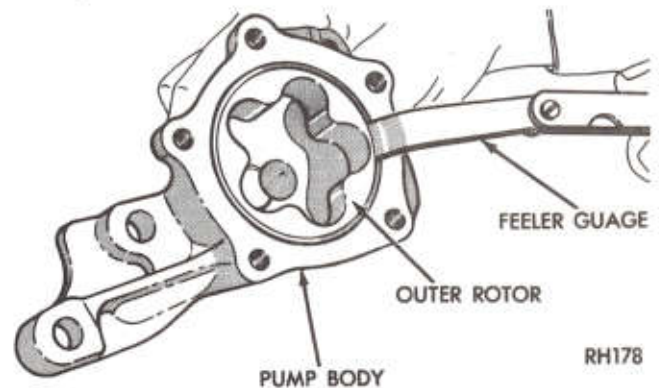

Fig. 60—Measuring Outer Rotor Clearance in Housing
(5) Slide outer rotor into pump body, press to one side with fingers and measure clearance between rotor and pump body (Fig. 60). If measurements is .014 inch (.356mm) or more, replace oil pump assembly.
(6) Install inner rotor and shaft into pump body. If